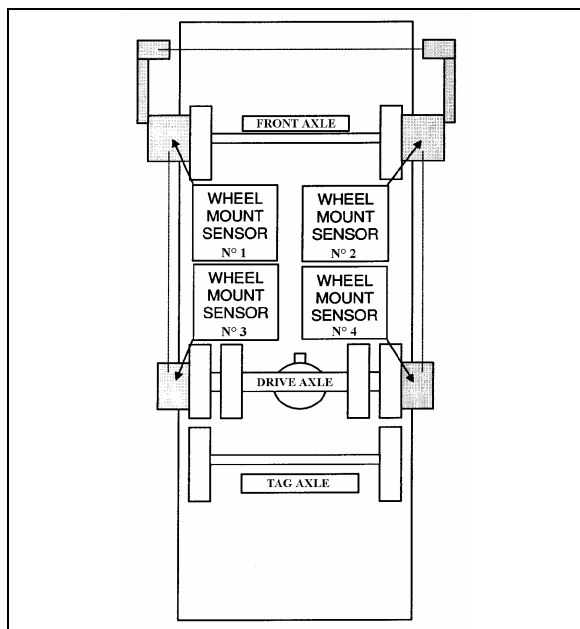

FIGURE 7: FRONT & DRIVE AXLE ALIGNMENT 11025
3. Install wheel mount sensors on front and drive axles (fig. 7). Adjust front axle according to appropriate specifications chart below.
Note: See reference numbers on wheel mount sensors (fig. 7).
- With the system installed as for front axle alignment (fig.7), adjust drive axle according to specifications' chart below.